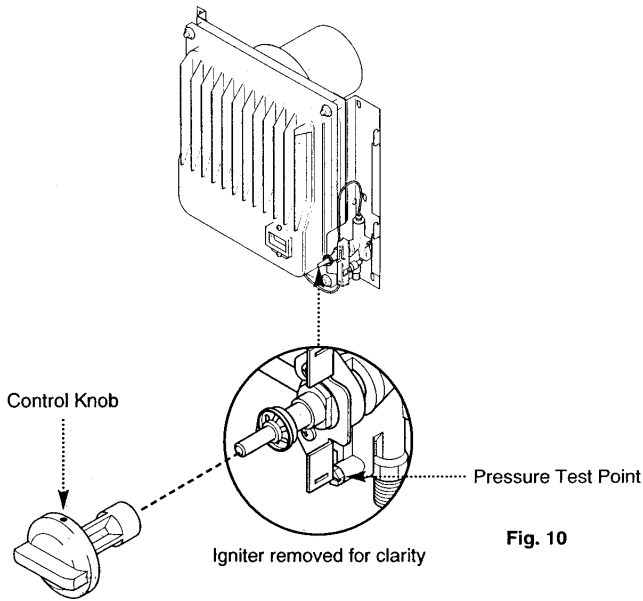

Fig. 10
2. Fit the control knob onto the control tap spindle (Fig. 10).
4. Remove the pressure test point screw. Fit a pressure gauge to the pressure test point (Fig. 10).
2. Remove the knob from the appliance by gently pulling the knob forward (Fig. 10).